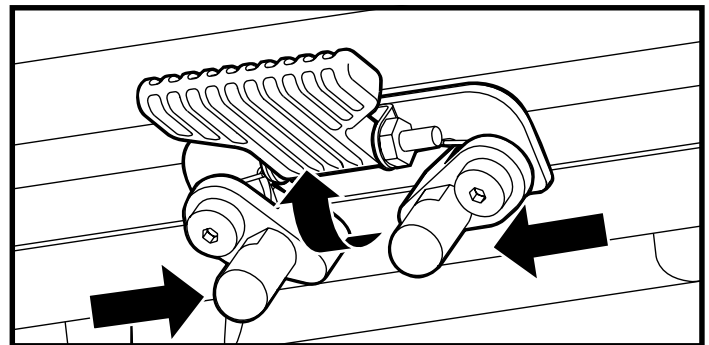

Figure 13. Seat Height Adjustment - Seat Latch Safety
4. Flip up the seat latch safety. See figure 13.
5. Squeeze the seat latch and release the seat from the front trapeze bar. See figure 13.